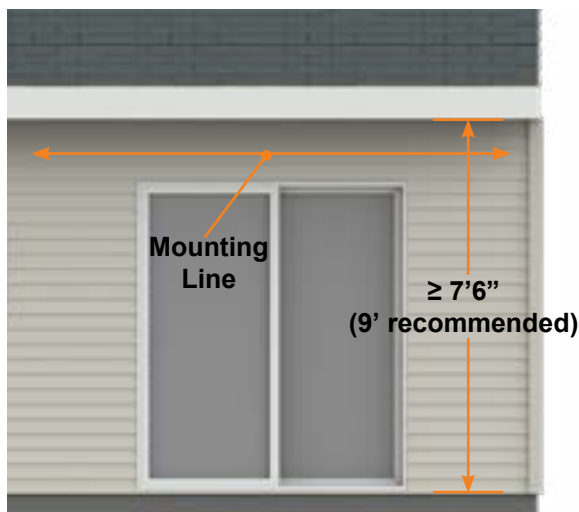
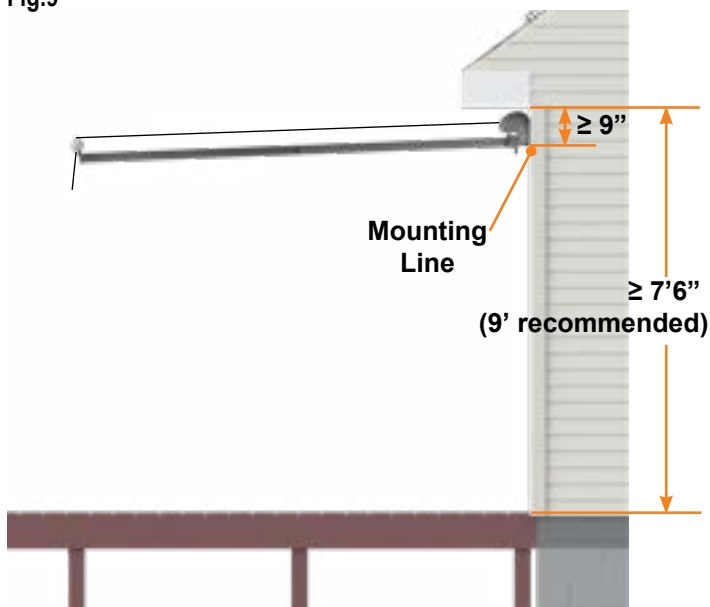

Fig.9
Fig.10
- Measure the height from ground/deck to the top of wall/ surface intended for installation. There must be at least 7’6” from the ground/deck of the intended install surface to the top to allow for headroom under the awning, however, 9’ is recommended for comfort and better pitch performance. (Fig. 9)(Fig. 10).